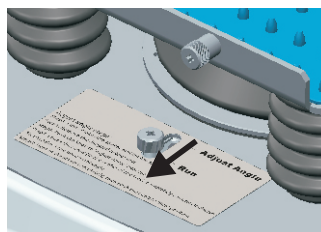

Figure 5
7. Push the knob on the cover plate from "Adjust Angle" to "Run" position as shown in figure 5.